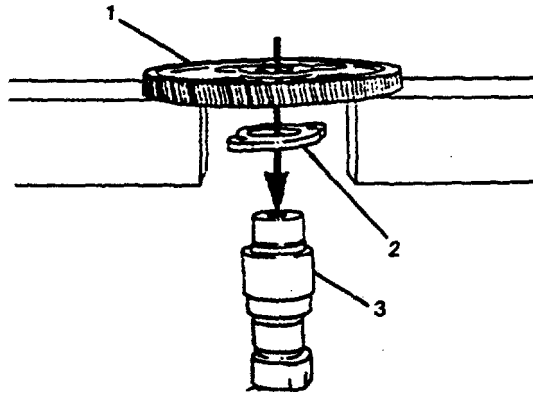

FIGURE 4-64. Camshaft Gear Removal.
- g. Remove gear (1, FIG. 4-64) using a suitable hydraulic press. Remove shaft retaining plate (2) from the shaft (3).
- r. Install the shaft retaining plate (2, FIG. 4-64). Ensure grooves on shaft retaining plate are toward the camshaft gear (1).